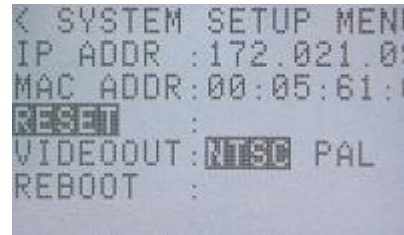

Figure 5-27 RESET
- 2) Use the arrows   to select "RESET" from the SYSTEM SETUP MENU and press SET  (Figure 5-27).